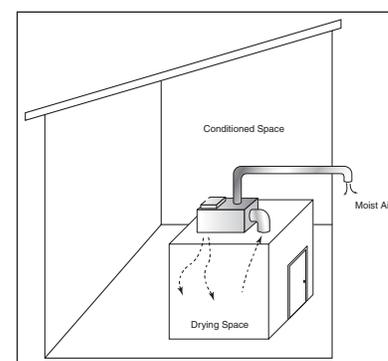

Figure 2.4
c. Outside Drying Space Fig. 2.4